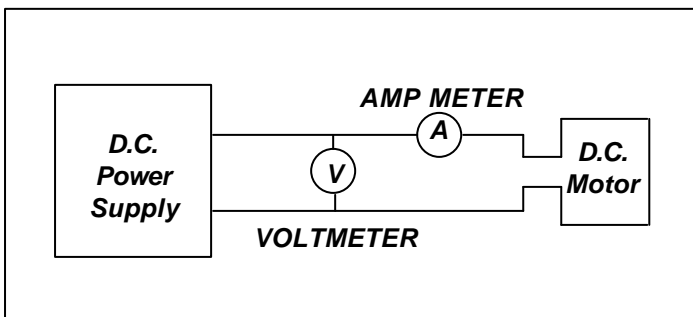

Figure 4-12: Electrical Test Circuit
3. If the motor turned freely, connect an ammeter in the circuit as shown in Figure 4-12. With rated voltage applied and the shaft running free, the ammeter should read less than 20% of the nameplate full load current. If the motor meets the above conditions then it can be assumed that the original problem is external to the motor.